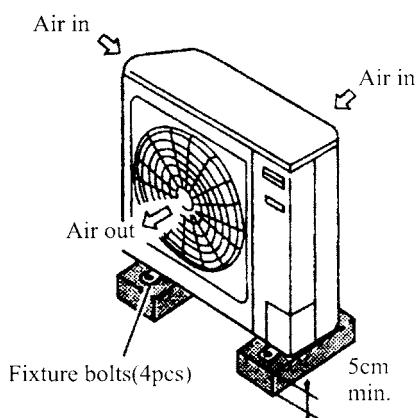

Fig. 93
- Have a base which is strong enough (eg. cement bricks, etc.), at least 15cm above the ground, so as to reduce dampness and protect the unit from water erosion, hence prolong its service life (see Fig. 93).